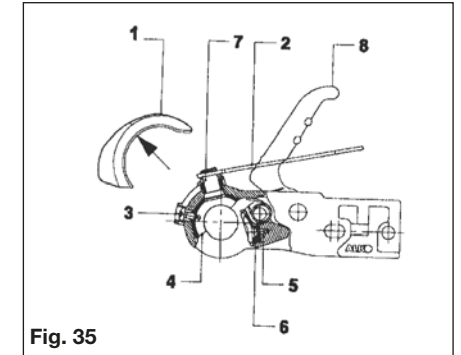

Fig. 35
- Remove the rubber soft dock (pull up and off) Fig. 35/Item 1 & Fig 36.
- Press the safety indicator outwards and secure with SW14 hex. spanner (not included), (Fig. 35/Item 2).
- Remove cheese-head screws (Fig. 35/item 3 & Fig 36), using special torx tool.
- Press friction lining recess (Fig. 35/Item 4) inwards and pull down and out.
- Open coupling handle (Fig. 35/Item 8).
- Remove countersunk head cap screw using special torx tool (Fig. 35/Item 5 & Fig. 37).